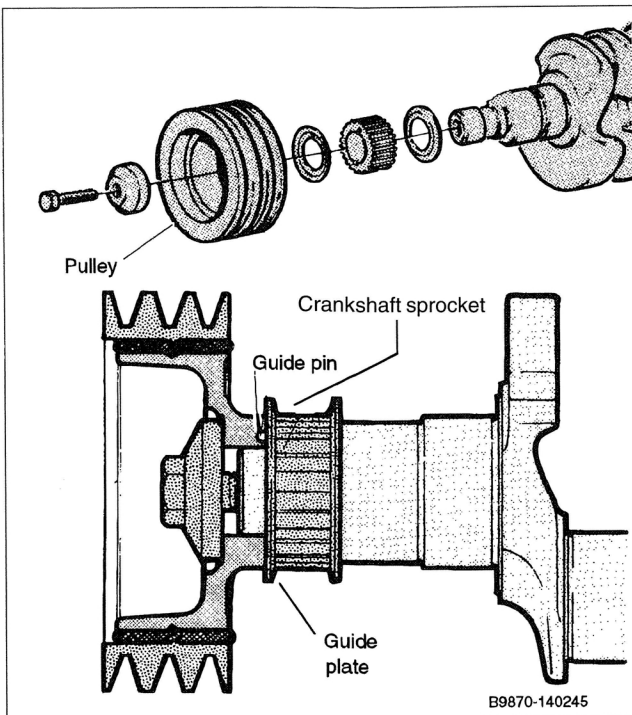

Fig. 11. Proper installation of timing belt sprocket guide plates and crankshaft pulley.
- On B230 engines, install the crankshaft pulley using a new bolt. Hold the crankshaft pulley stationary and tighten the pulley bolt. See Fig. 11.